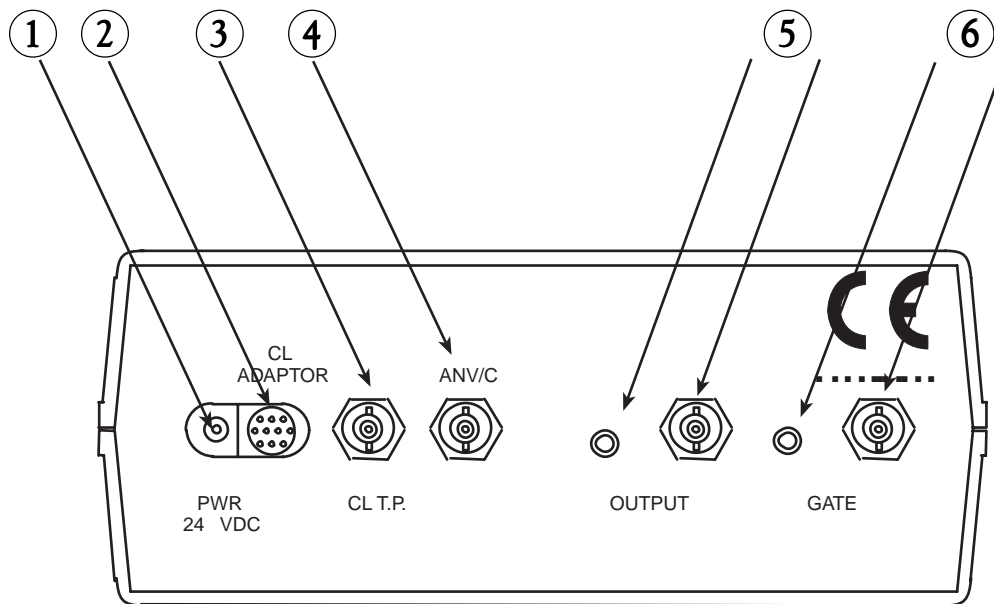

Figure 2 Rear Panel Connectors
If using the “wall plug” power supply, insert its female barrel plug into the UC-1000’s *Pwr 24 VDC* input jack to provide power to the unit. Refer to page 7, Figure 2. On Series 48 lasers, version G or newer, you can power the UC-1000 by connecting the supplied power cable between the *Pwr 24 VDC* input jack and the laser’s side-mounted UC-1000 power connection.
1. Attach one end of the supplied control cable to the UC-1000’s rear panel *Output* BNC connector. Refer to page 7, Figure 2.
1. Attach the long “leg” of the supplied “Y” control cable to the UC-1000’s rear panel *Output* BNC connector. Refer to page 7, Figure 2.
2. Attach one end of the supplied control cable to the UC-1000's rear panel *Output* BNC connector. Refer to page 7, Figure 2.
UC-1000 rear panel input and output connectors are described in this section. Each callout item in Figure 2 below refers to a numbered description in the accompanying text.